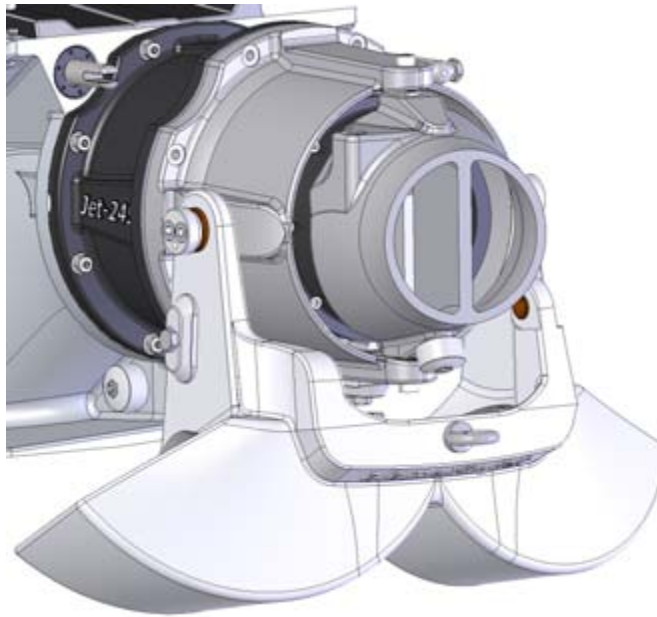

Figure 90. Removing the stator as a complete unit
4. Pull the stator, the steering nozzle and the reversing deflector out as a single assembly (figure 90).